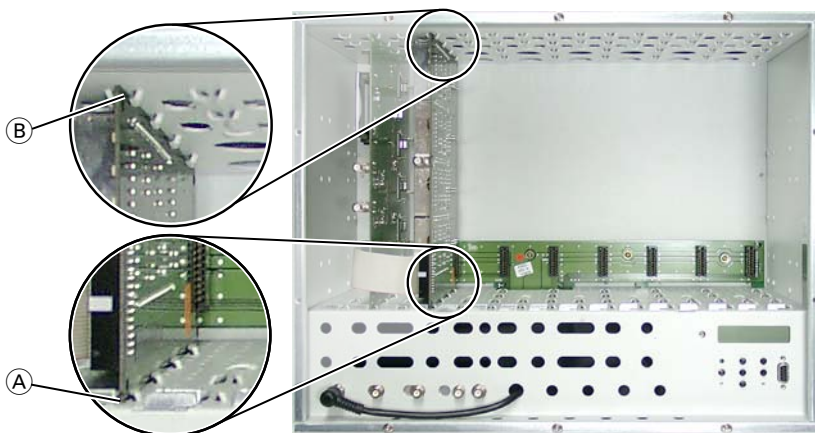

Fig. 2
—> Slots 1 (digital module) and 2 (modulator module) are shown in figure 2. The open slot in between (without a contact strip on the board at the rear wall of the housing) is intended for an add-on module.
- Insert the modulator module in grooves (A) and (B) (fig. 2) of an open slot on the right hand side of the associated digital module or an add-on module.